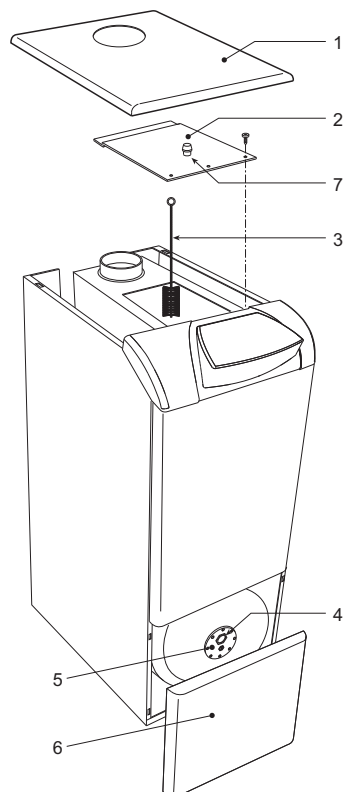

fig. 20 - Boiler cleaning
To clean the boiler properly (fig. 20):
- Remove the front panel of the hot water tank (6 - fig. 20).
The degree of deterioration of the magnesium anode (4 - fig. 20) can be checked directly from the outside by unscrewing it from the hot water tank flange (after turning off the domestic hot water supply and draining the hot water tank).
A point for sampling fumes has been included inside the boiler, in the upper part of the anti-backflow device (detail 7 - fig. 20).